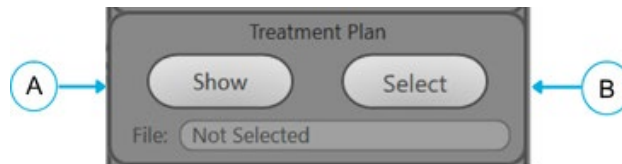

Figure 10-35: Treatment Plan menu
2. Locate the **Treatment Plan** menu on the displayed Settings screen (see **Figure 10-35**).